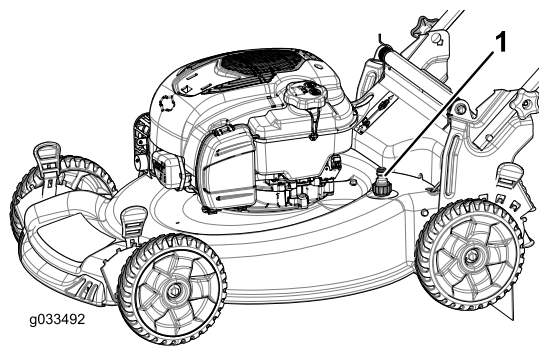

Figure 26
5. Attach a garden hose that is connected to a water supply to the washout port (Figure 26).